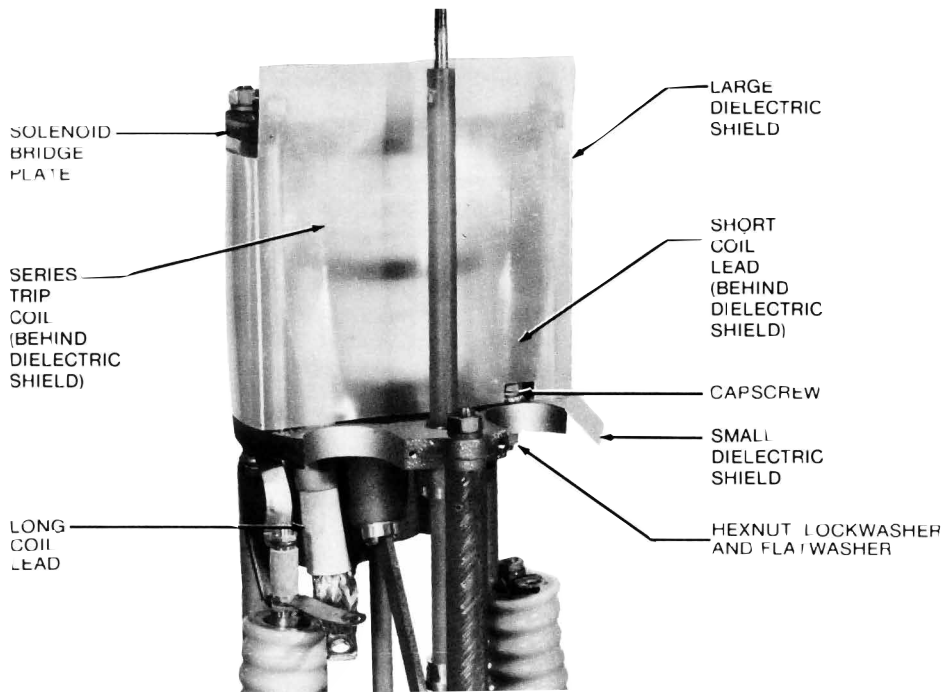

Figure 13. Series-trip solenoid assembly
2. Disconnect coil leads. The long coil lead is disconnected while removing the arc-interrupting assemblies. The short coil lead is disconnected from the solenoid frame by removing the capscrew, flatwasher, lockwasher and hex nut (Figure 13).